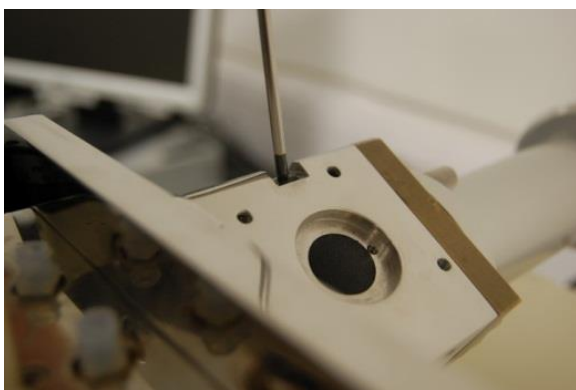

Figure 3.1 - Location of bleed screw on top of cell block
2. Drain the water bath by unscrewing the bleed screw located on top of the cellblock (Figure 3.1).